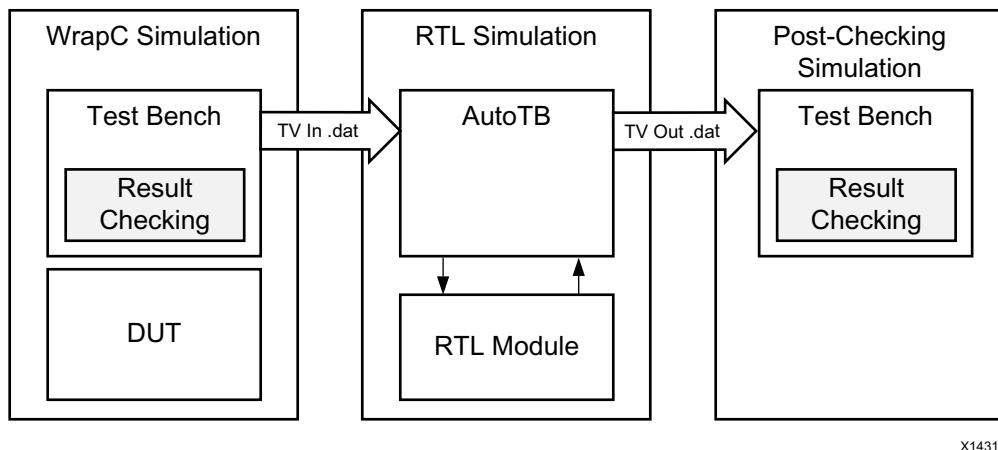

Figure 1-73: RTL Verification Flow
C/RTL co-simulation uses the C test bench to automatically verify the RTL design. The verification process consists of three phases, shown in Figure 1-73.
- Reduce Disk Space: The flow shown Figure 1-73 in saves the results for all transactions before executing RTL simulation. In some cases, this can result in large data files. The `reduce_diskspace` option can be used to execute one transaction at a time and reduce the amount of disk space required for the file. If the function is executed N times in the C test bench, the `reduce_diskspace` option ensure N separate RTL simulations are performed. This causes the simulation to run slower.